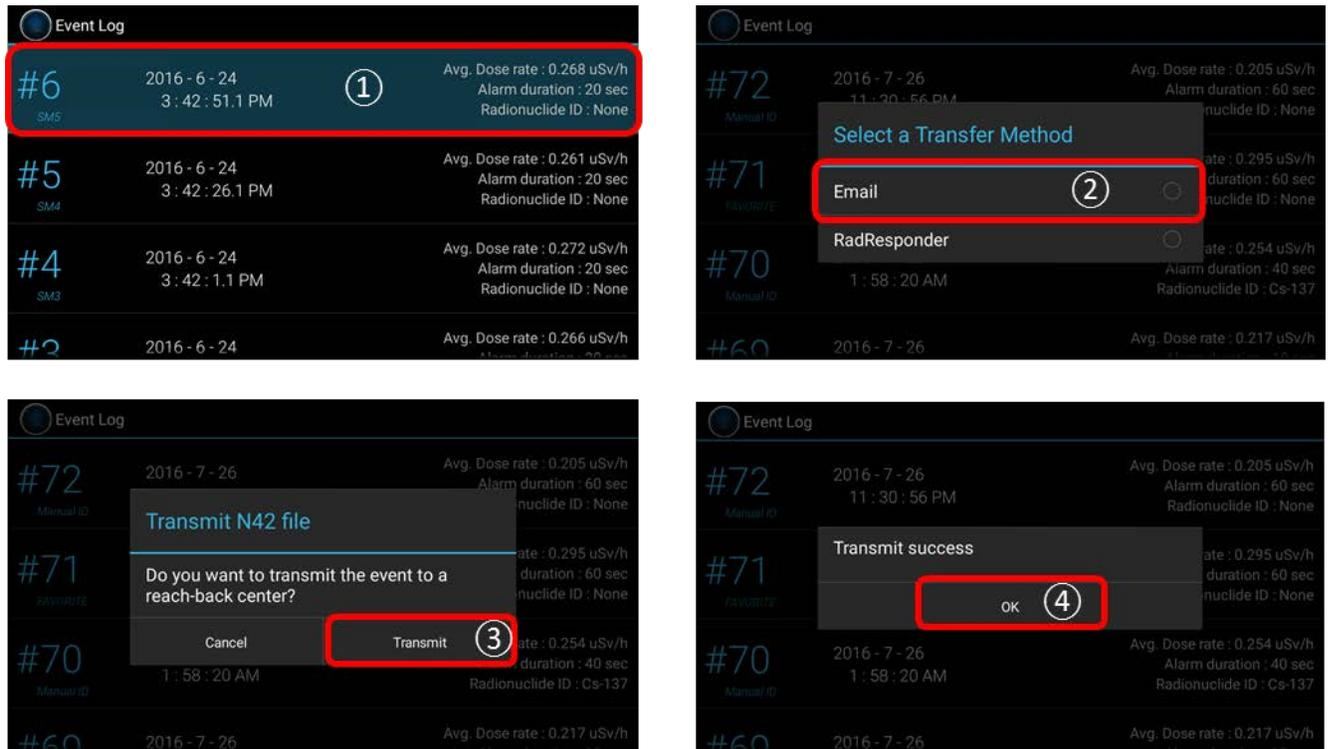

Figure 4.17. Sending event(s) from Event Log to Reach-back.
2. Pop up screen appears as shown in figure 4.17. Select 'Reach-back' as destination to send.